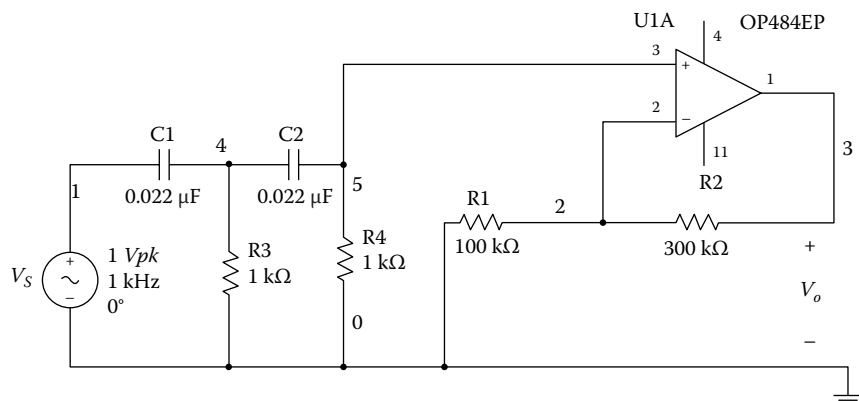

FIGURE P5.10
Problem 5.10 Build the circuit shown in Figure P5.10. Use the Network Analyzer of the Analog Discovery board to: (1) Obtain the Bode plot of the filter. (2) Measure the cut-off frequency. (3) Obtain the high-frequency gain of the circuit.